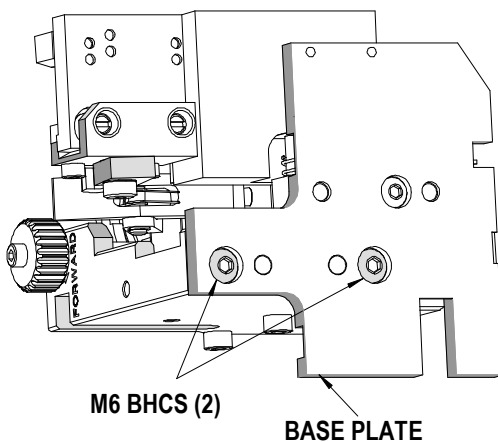

Figure 2-8
3. Lay the applicator on its side. Using a 4mm hex wrench, remove the (2) M6 BHCS that hold the applicator frame to the base plate. See Figure 2-8.